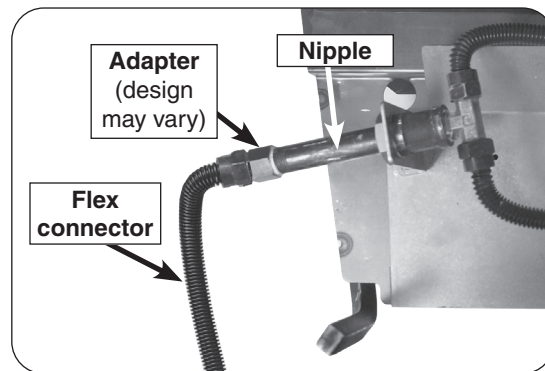

Fig. 8-1 Connect flex to burner
3. Remove the small adapter connected to the flex connector (included). Attach the adapter to the nipple found on the bottom of the burner pan using a pipe compound resistant to all gasses. Tighten securely. Then attach the flex connector to the adapter. Tighten securely (See Fig. 8-1).